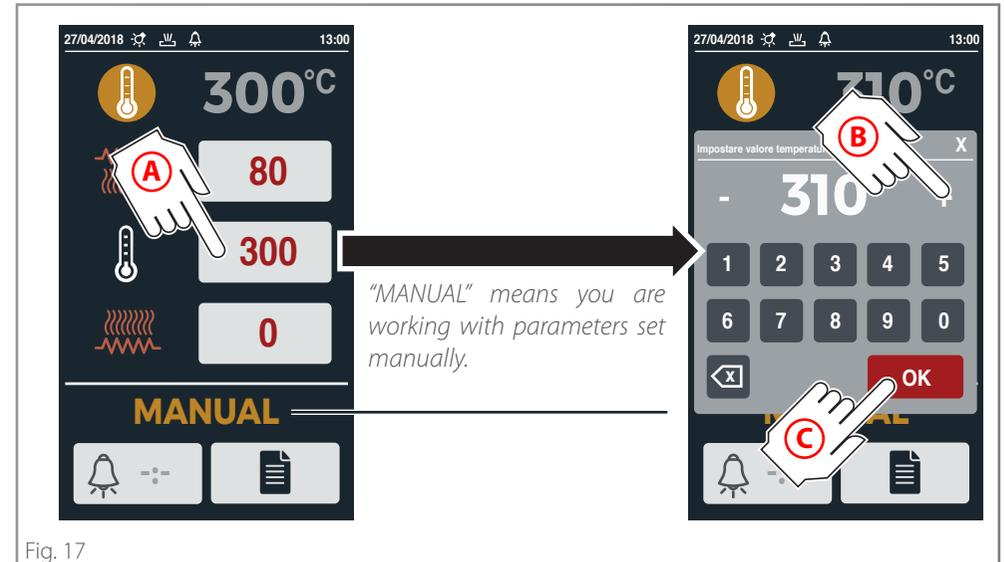

Fig. 17
- ▶ **Fig. 17** entering **manually** the **preheating temperature** and the desired **top and bottom power** (see table on page 8, cooking information).
### Entering the recipe parameters manually ▶ Fig. 17